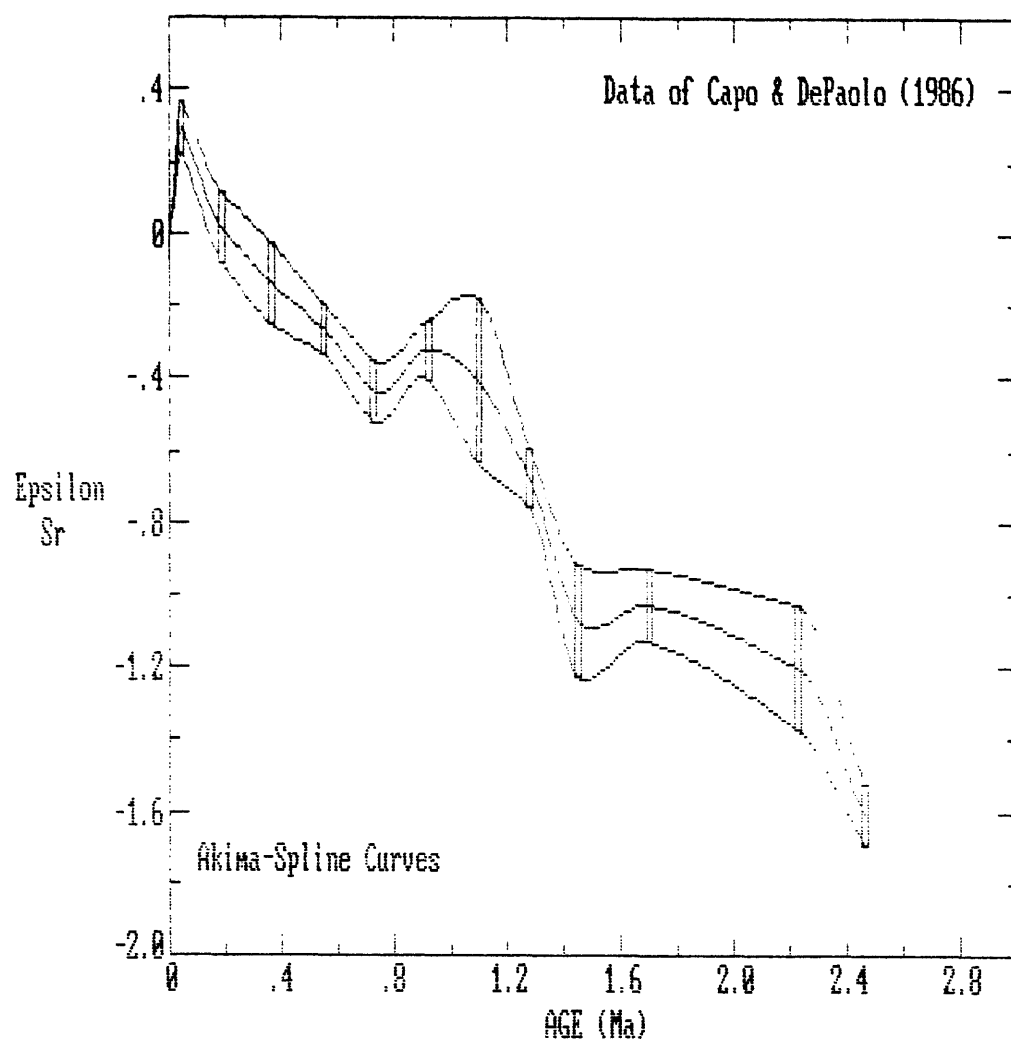

fig. 2
- Figure 2: Example of X-Y plot with spline curves fit to the Sr-isotope data of Capo and DePaolo (1986). The narrow boxes indicate the data with errors; spline curve (Akima method - see text) is constructed for both the best-estimate data-points and their error extremes.